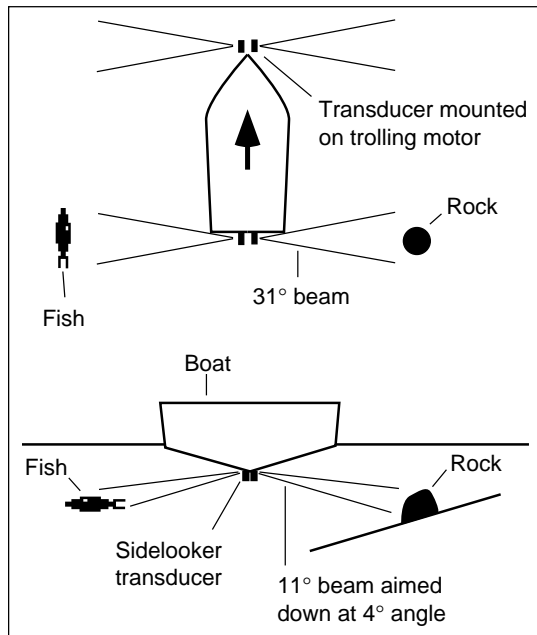

Fig. 3-10
The optional Sidelooker transducer transmits two acoustic beams—one to the port side of the boat, and one to the starboard. These are displayed on the left and right halves of the Sidelooker Page. See Fig. 3-10.
Side range This is the maximum distance the unit will be able to see using the current range setting. Remember that the sound waves move out at a shallow angle, so this distance is measured **sideways**. See Fig. 3-10. The units used here are chosen using the entry for Depth Units in the System Setup Menu. If you have selected feet (FT) or fathoms (FA), the distance shown here will be measured in feet. If you have selected meters (M), the distance shown here will be in meters.
A line or arch-shaped mark shows that the unit has detected a fish. In general, a larger mark indicates a larger fish. If the fish symbols are turned on, the unit will indicate fish using symbols instead. A number beside each symbol shows the distance from the boat to the fish. Remember that this distance is measured **sideways**. See Fig. 3-10.